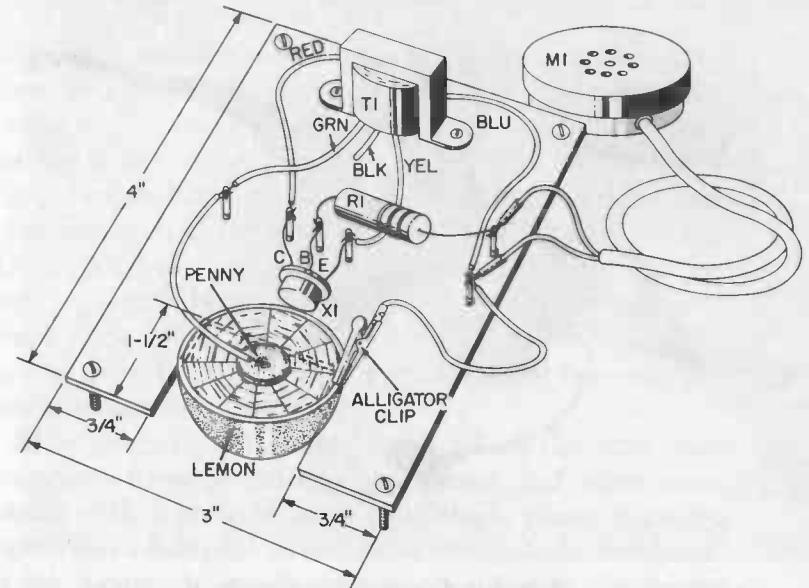

Fig. 4-3. Pictorial diagram.
Your transformer may not have the same color coding shown in the drawings. In this instance, the correct connections aren't difficult to figure out. Assuming you have purchased the transistor driver transformer specified in the Parts List, it will have two sets of leads. The secondary (rated at 2K, or 2,000 ohms) usually has three leads. Checking the information supplied with your transformer, connect one secondary wire to the emitter (E) of the transistor (Fig. 4-3 and 4-4) and the other to the lead that goes to the penny. (Do not use the center-tap wire, if the secondary has one.) The primary of the transformer is the